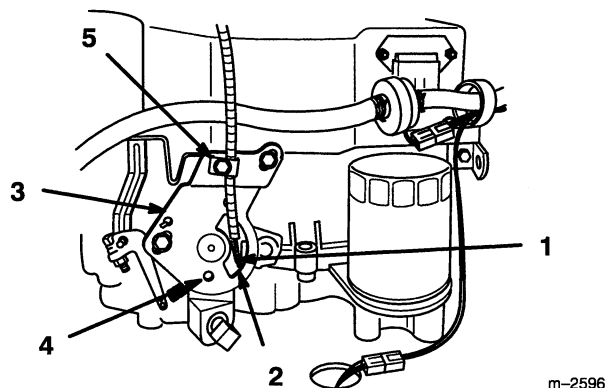

Figure 5
1. Place throttle control lever in FAST position.(Fig. 5).
2. Hook wire Z-bend into hole of speed control lever (Fig. 5).
3. Loosen cable clamp screw allowing cable installation, but do not tighten (Fig. 5).